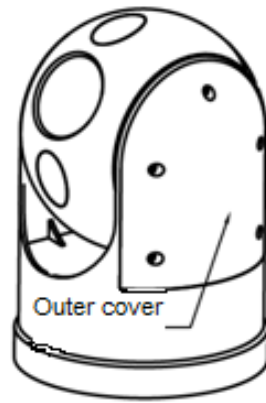

Figure 5
1. As Figure 5 shows, please remove the outer cover and take it out;